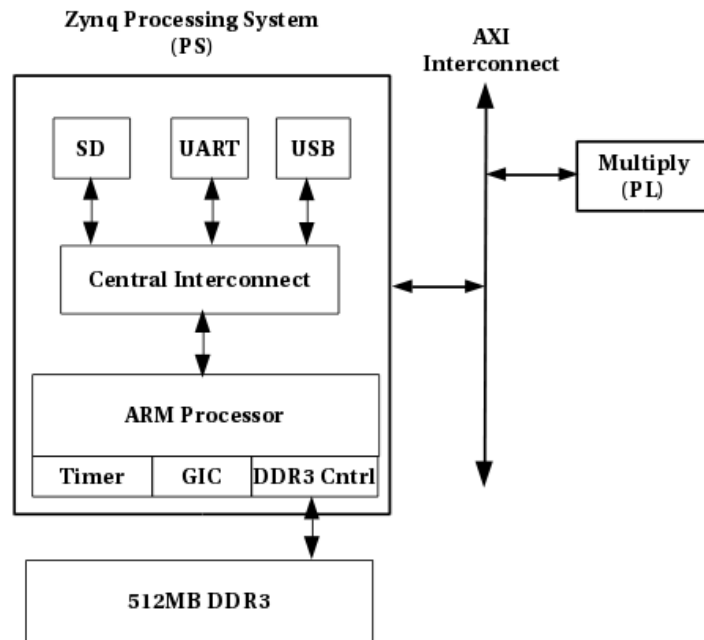
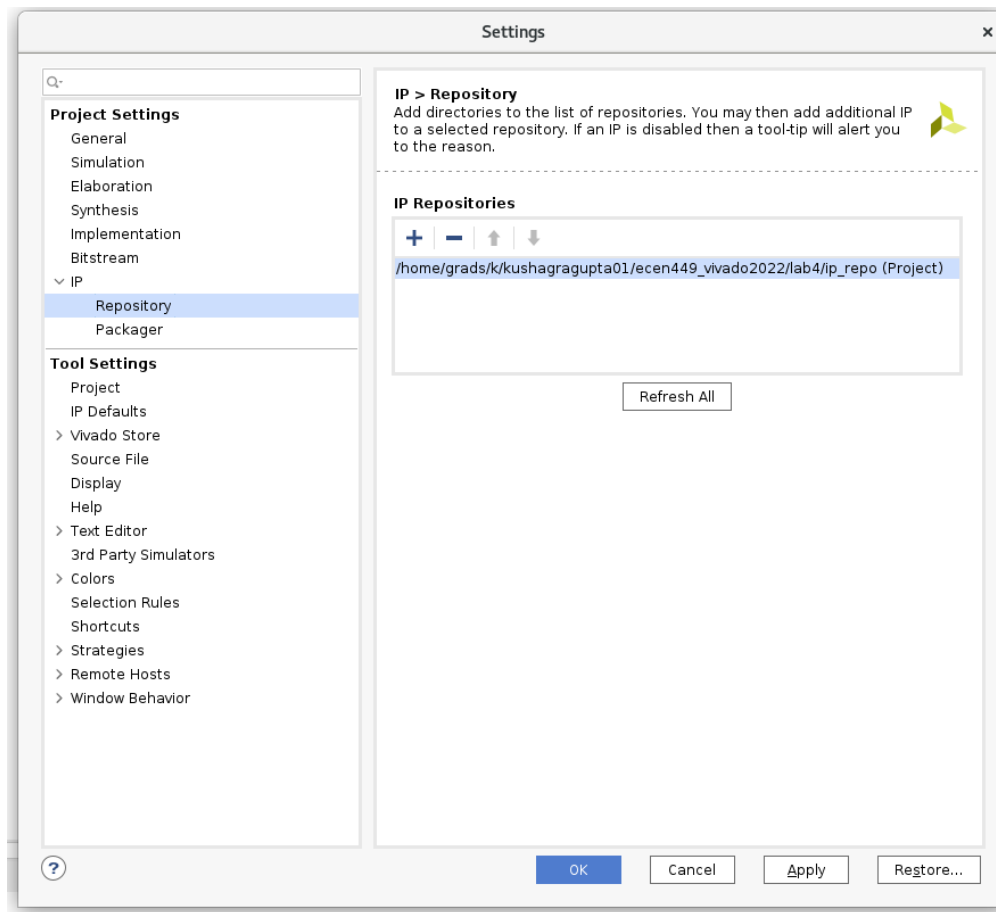

Figure 1: Zynq System Diagram
Figure 2: Add IP repository
The microprocessor system you will build in this lab is depicted in Figure 1. As in last lab, this system has a Zynq processor, an UART Peripheral, and a custom multiplication peripheral. Unlike last lab, however, this system has an SD Card, a timer and a DDR3 (Double Data Rate v3 Synchronous Dynamic
1. To begin, we must create a base PS system which includes all the peripherals shown in Figure 1 .
- (b) Next create block design, add 'ZYNQ7 Processing System' (PS) IP, run block automation and import 'ZYBO_Z7_B2.tcl' file' as shown in Lab 3.
- (f) Click on 'Settings' under the 'PROJECT MANAGER' section in Vivado. Expand 'IP' in the project setting window and click on 'Repository'. Click on the blue '+' sign and add the 'ip_repo' directory as shown in Figure 2. Click apply to add multiply IP to the current project IP catalog. Now you can add multiply IP to the base system.
- (a) Compared to lab 3, the lab 4 microprocessor system shown in Figure 1 has 512 MB of SDRAM. However, our system still includes a small amount of local memory. What is the function of the local memory? Does this 'local memory' exist on a standard motherboard? If so, where?